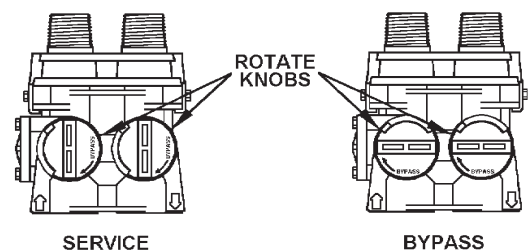
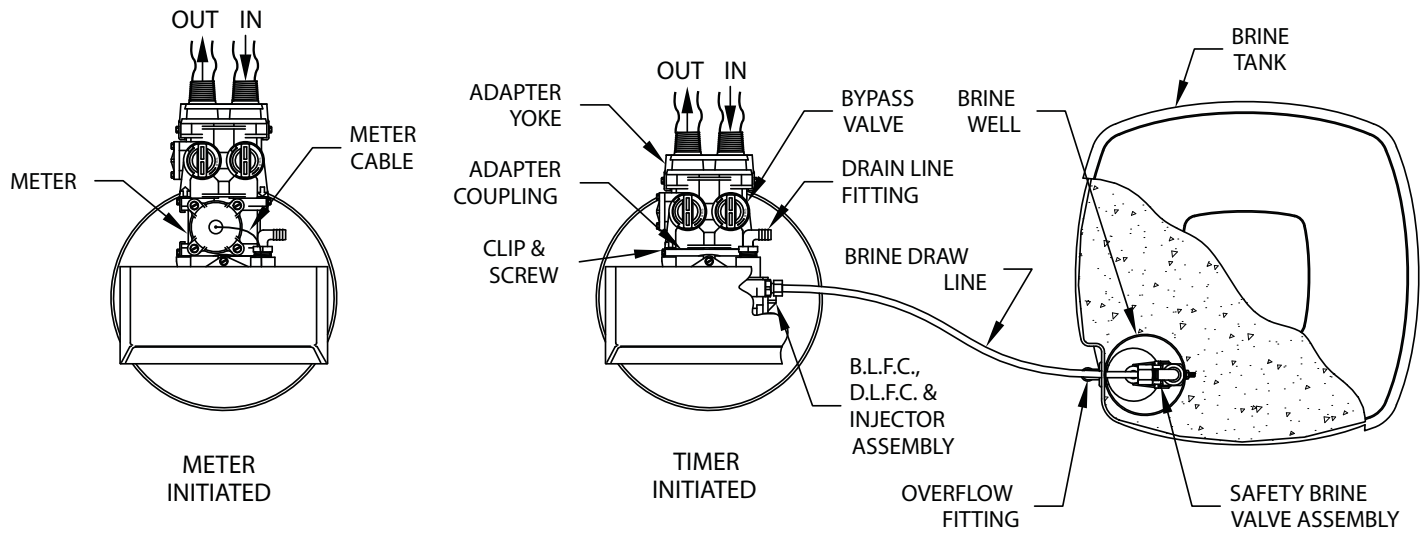

Figure 3. BYPASS VALVE
Figure 4. Softener and Brine Tank Assembly, Top View
- Attach BYPASS VALVE/YOKE ASSEMBLY (Figure 3) using ADAPTER COUPLINGS, CLIPS and SCREWS to CONTROL VALVE (Figure 4). On Meter initiated models, attach METER between BYPASS VALVE and CONTROL VALVE (Figure 4).
Connect one end of the 3/8 in. poly brine line to BRINE VALVE located on right side of CONTROL VALVE. Connect other end to ELBOW inside of BRINE WELL. Brass sleeves and plastic ferrules must be used where necessary. (See Figure 3 and CONTROL VALVE PARTS drawing, Section 6).
Install OVERFLOW LINE to brine tank OVERFLOW FITTING (Figure 4). Discharge of line must be lower than OVERFLOW FITTING. DO NOT INTERCONNECT OVERFLOW LINE WITH VALVE DRAIN LINE (STEP 6).